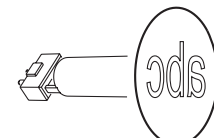

Figure 23. Correct gobo orientation
Correct gobo orientation is critical. Read the guidelines in Figure 23 carefully before installing a gobo.
5. Insert the new gobo in the holder with the side that must face towards the lamp facing upwards, towards the spring (see Figure 22 and Figure 23).
The orientations shown in Figure 23 are correct in most cases, but consult your Martin dealer or gobo supplier if you are in any doubt about the orientation of a specific gobo type.